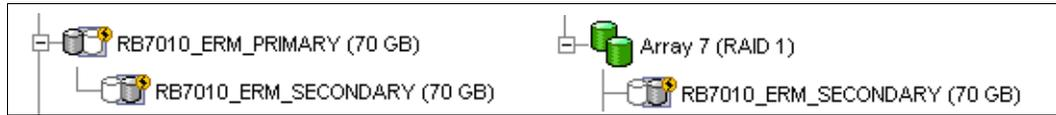
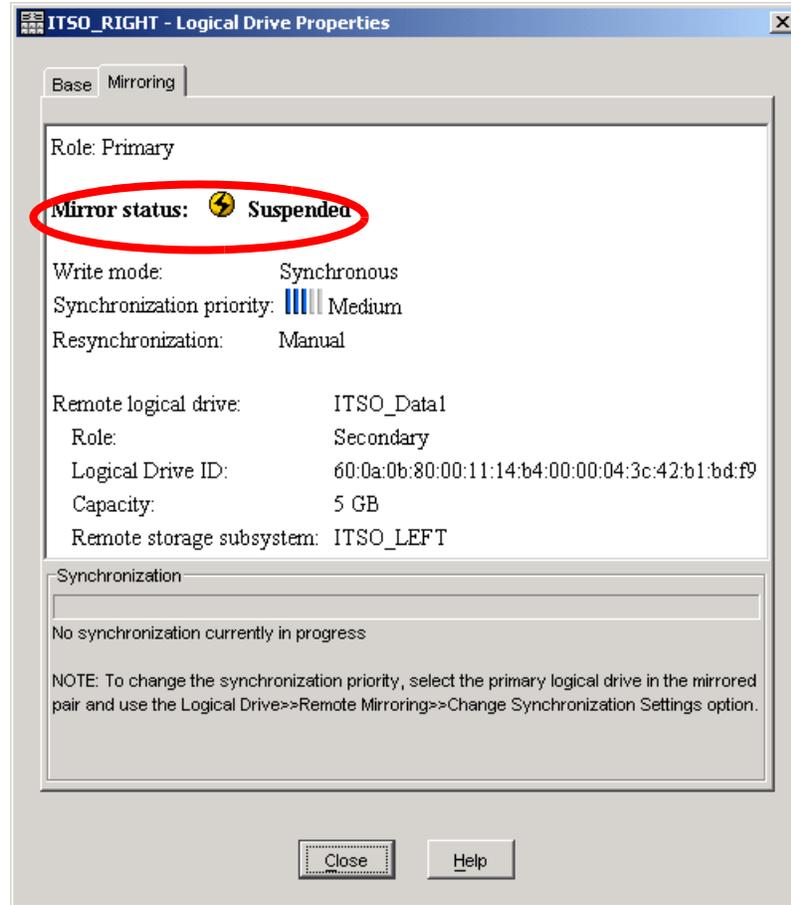

Figure 8-52 Suspended mirrored logical drives on primary and secondary storage servers
Figure 8-53 Suspended state
5. The suspended logical drives are indicated in the logical view of the Storage Management window, as shown in Figure 8-52, and in the Logical Drive Properties (Mirroring tab), as shown in Figure 8-53.